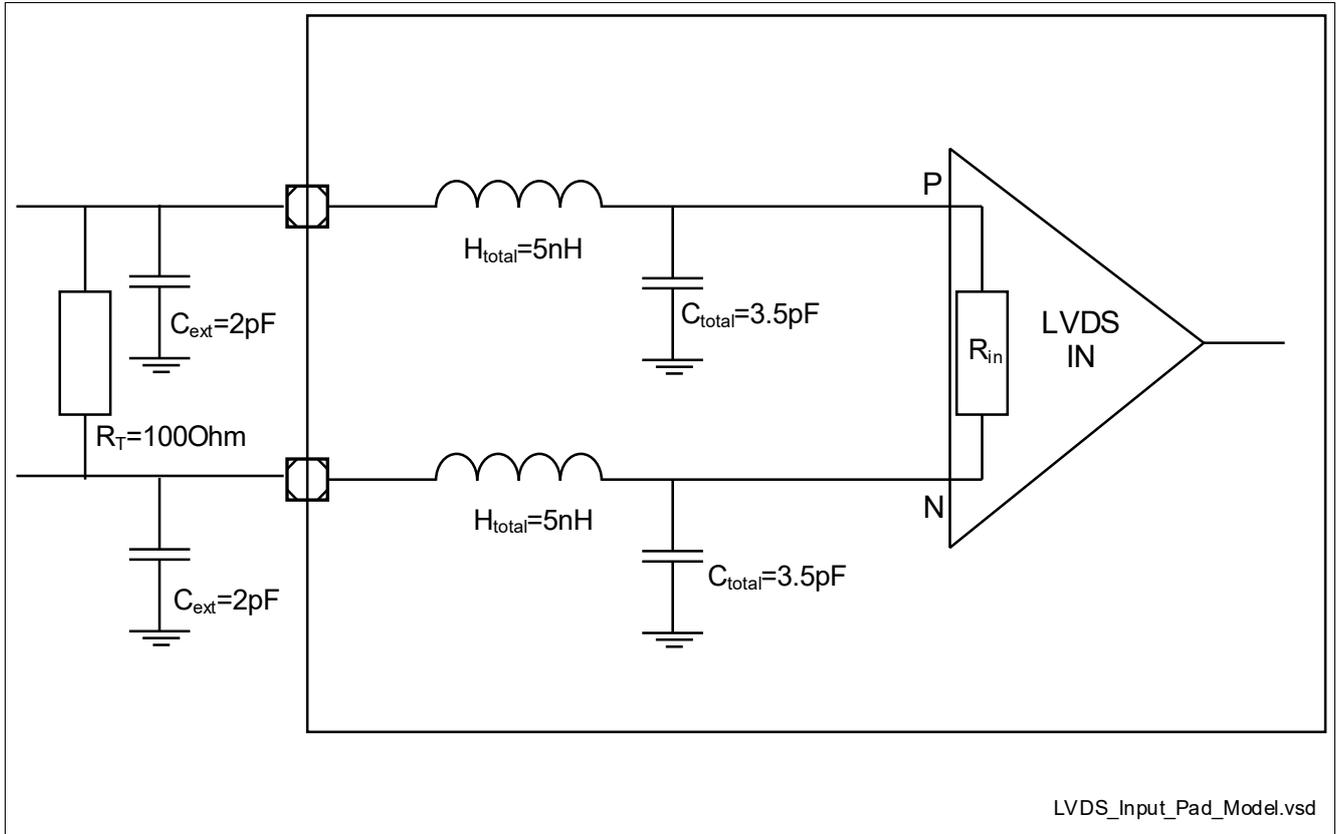

Figure 3-1 LVDS pad Input model
*Note:  $R_T$  in table 'LVDS - IEEE standard LVDS general purpose Link (GPL)' is as termination resistor of the receiver according to figure 3-5 in IEEE Std 1596.3-1996 and is represent in Figure 3-1 either by  $R_{in}$  or by  $R_T=100$ Ohm but not both. If  $R_T$  is mentioned in column Note / Test Condition always the internal resistor  $R_{in}$  in Figure 3-1 is the selected one.*